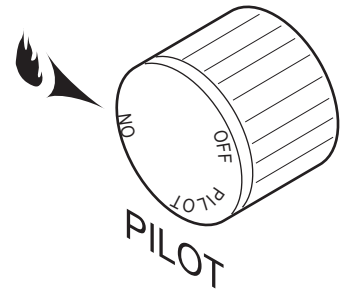

Figure 41 - On Position
Depress and turn the knob counterclockwise ↺ to the “ON” position. *Figure 41*. It will take less than four (4) seconds for the burner to ignite.